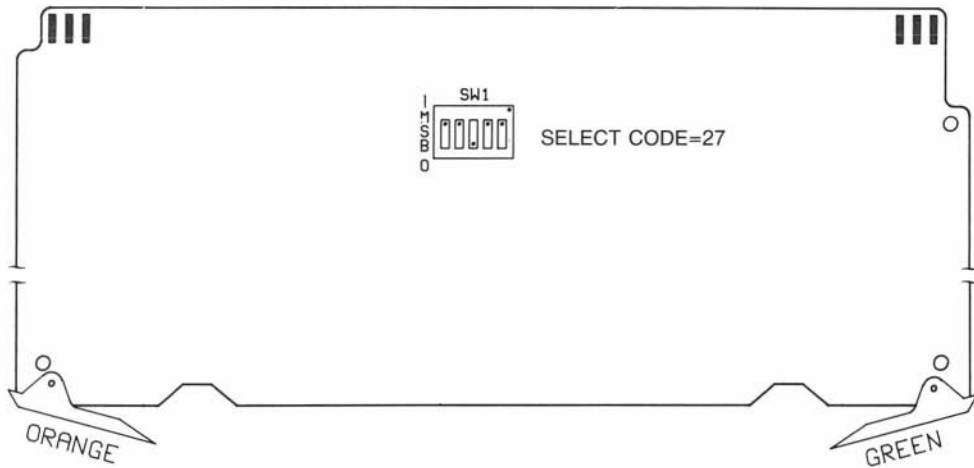

Figure 5-1. EPROM Programmer Interface select code switches.
- Find the set of five switches labeled SW1 on the EPROM Programmer Interface (see Figure 5-1).